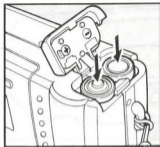

Fig.3 Abb.3 1.3
- With the battery inserted incorrectly, the camera will not work. Make sure the battery is installed as shown in **Fig. 3**.